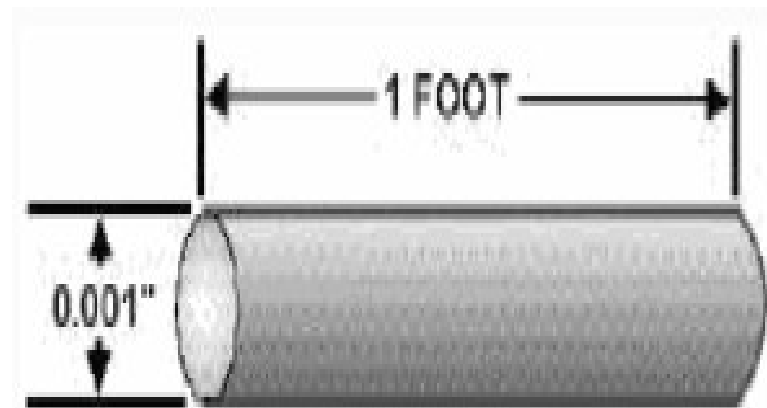

Figure 1-3.—Circular-mil-foot.
- A circular-mil-foot (figure 1-3) is a unit of **volume**. It is a unit conductor 1 foot in length and has a cross-sectional area of 1 circular mil.